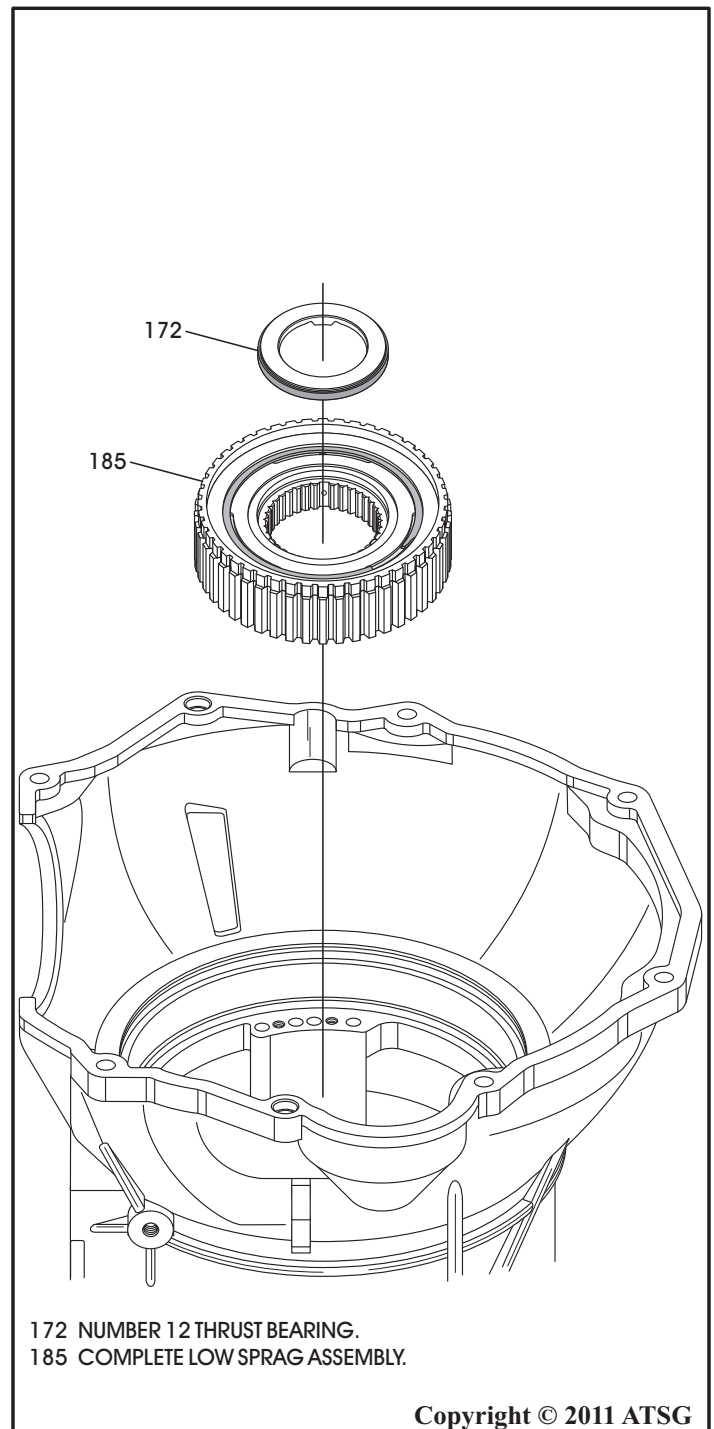

Figure 53
41. Remove the number 12 thrust bearing, as shown in Figure 53.
42. Remove the low sprag assembly, as shown in Figure 53, and set aside for component rebuild section.